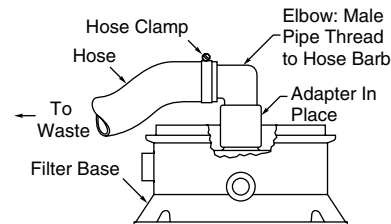

FIGURE 18
2. Thread a 1-1/2" 90 degree PVC elbow into female adapter on filter base (see Figure 18).
3. Attach hose to elbow as shown in Figure 18; run hose to waste water disposal area.